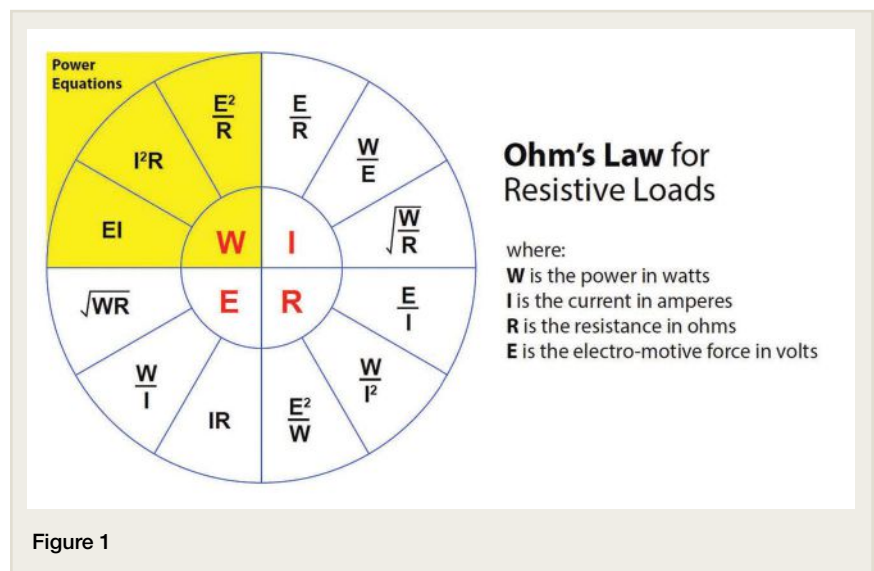

Figure 1
1) The output power of an amplifier can be calculated from the power equations, with the variables supplied by Ohm's Law (**Figure 1**).